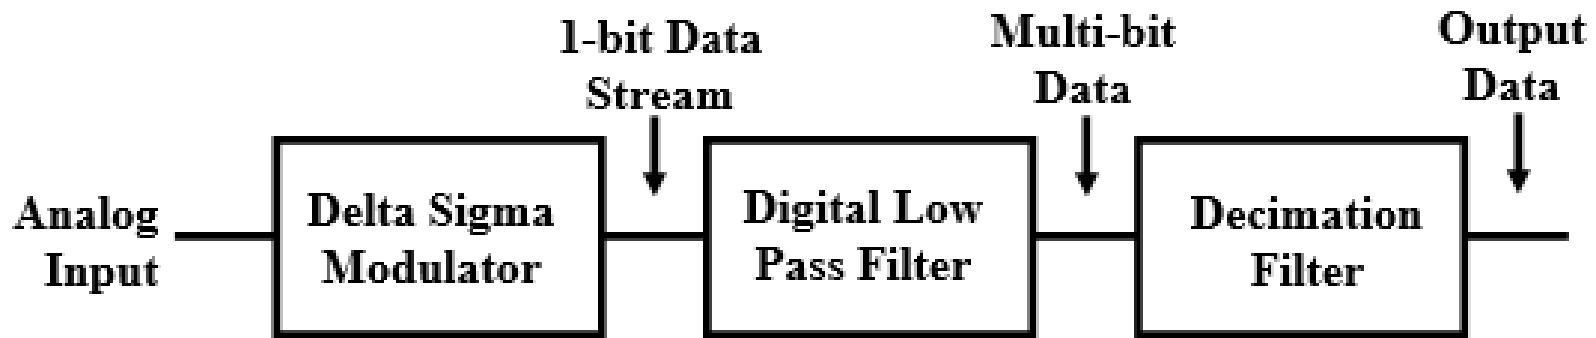

Fig. 18 The Digital Side of the Sigma-Delta modulator
- The purpose of the digital-and-decimation filter (Fig.18) is to extract information from this data stream and reduce the data rate to a more useful value.